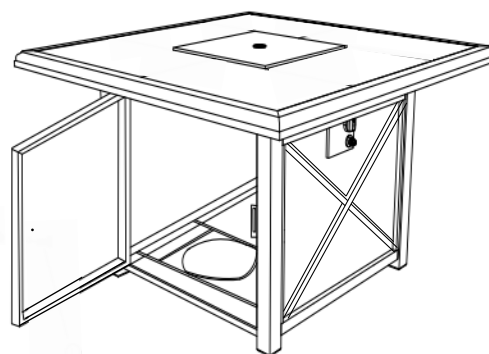

Figure 4
5. Turn over the table, and attach the door (F) to the frame show as right, (see figure4).